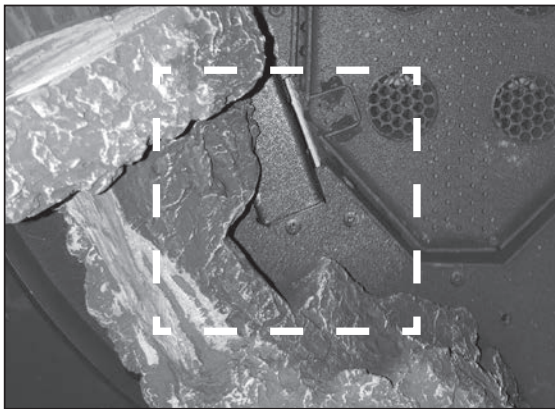

Figure 99: Log 7 Placement (Top View)
***Note:** It is important that Log 7 is placed correctly as specified in the instructions. There is a notch located on its back side (facing the burner) that should be placed to the right of the pilot as shown in Figure 99. Failure to place the log properly could result in problems with the pilot.